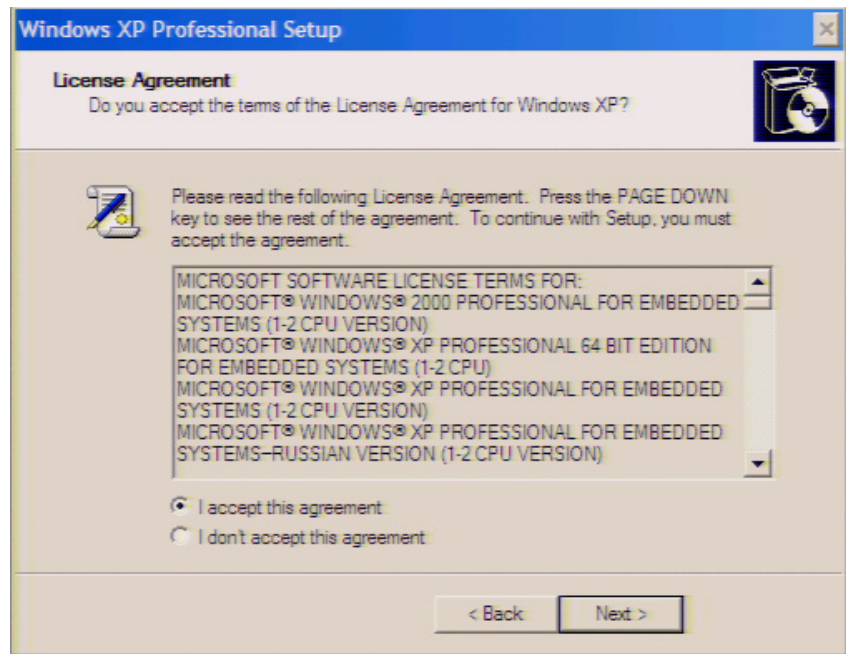

Figure 15 Windows XP Pro for Embedded Systems license agreement dialog box
Step 5. In the License agreement dialog box, select the **I accept this agreement** box and click the **Next >** button. Figure 15 shows the license agreement dialog box in Windows XP Pro for Embedded Systems.